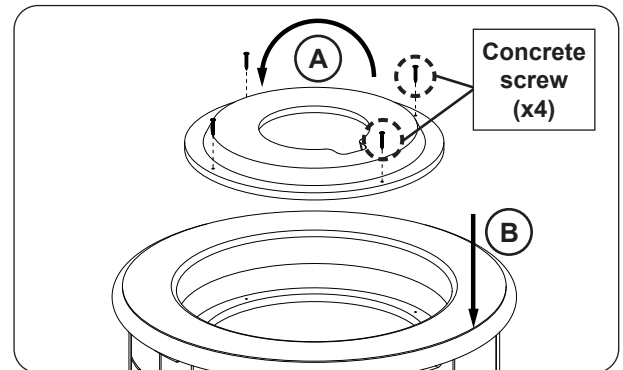

Fig. 33-3 Flip and install refractory panel
2. Flip the refractory panel and align the pilot holes. Re-install the 4 concrete screws (see Fig. 33-3).